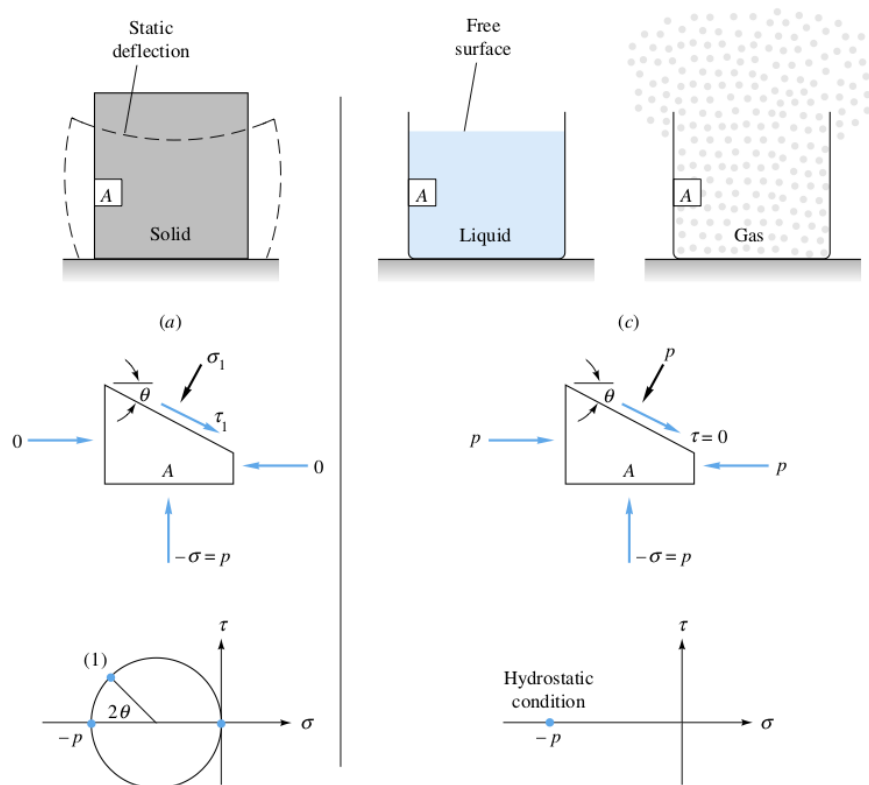

Figure 1.1: Fluid versus solid
1.1 Explain how a fluid differs from a solid (see Fig. 1.1 below). How does a fluid element and solid element react under the presence of shear forces?